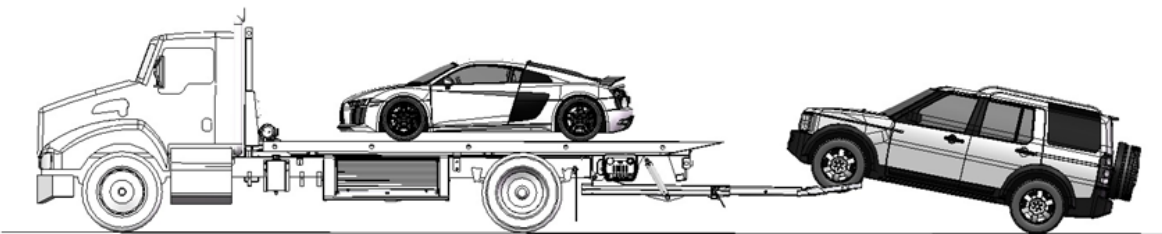

FIGURE 42 – RAISE THE TOWED VEHICLE
6. Slowly raise the towed vehicle with the wheel lift, ensuring that the vehicle remains securely in place and that the wheel lift and L-arms do not come into contact with any part of the vehicle, as shown in Figure 42.